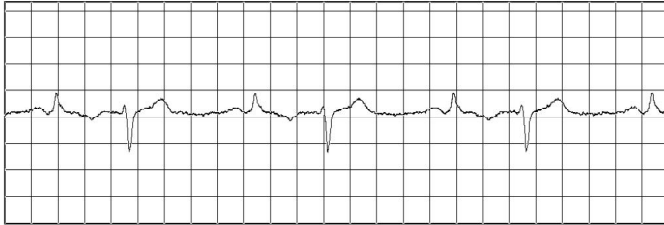

Figure 2.15
The ECG electrodes are to be placed as shown in the diagram below. However, in order to improve the respiration measurement, it is found useful to move the Right Arm electrode (R) within the area shown in the Figure 2.15.